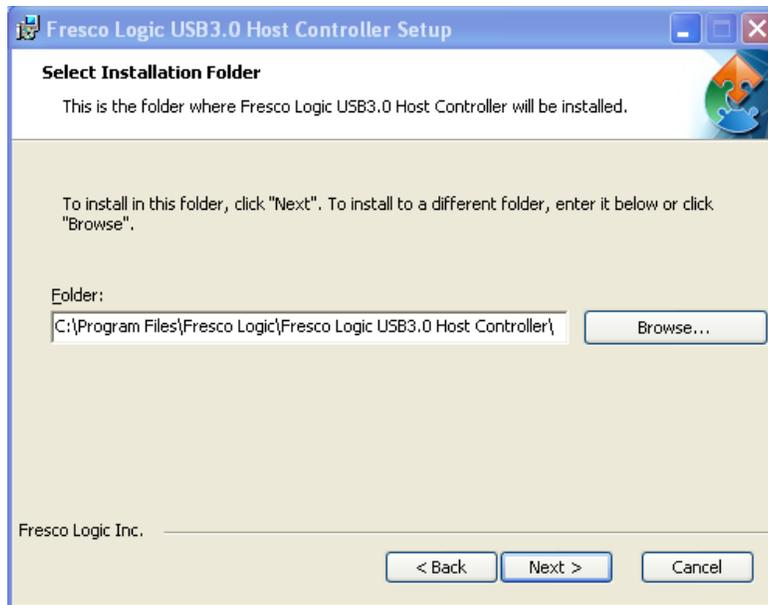

Figure 7-31: USB 3.0 Driver Choose Install Location
Step 6: Browse for an install location or use the one suggested (**Figure 7-31**).